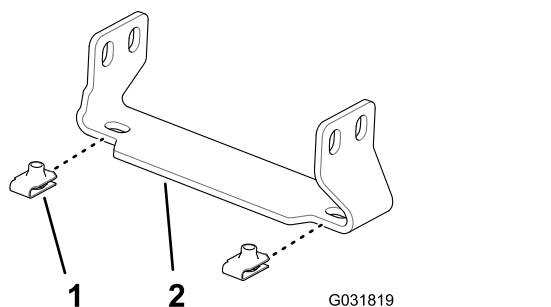

Figure 150
- Install the 4 clip nuts (Toro Part No. 94-2413) onto the 2 support bracket of the center-section cover (Toro Part No. 131-3703-03) as shown in (Figure 150).